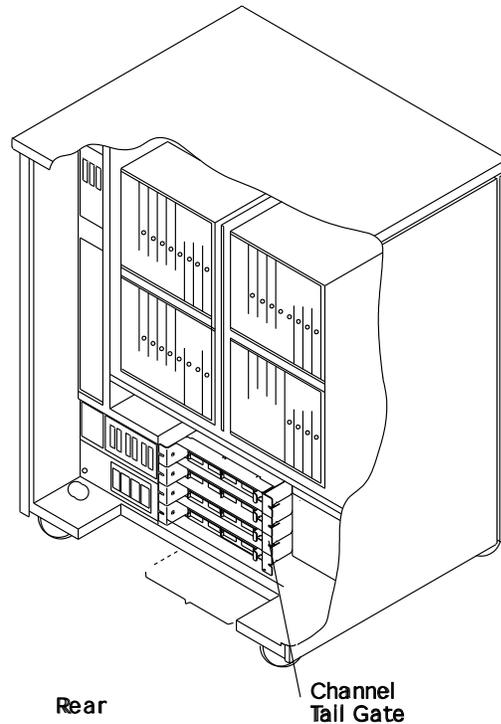
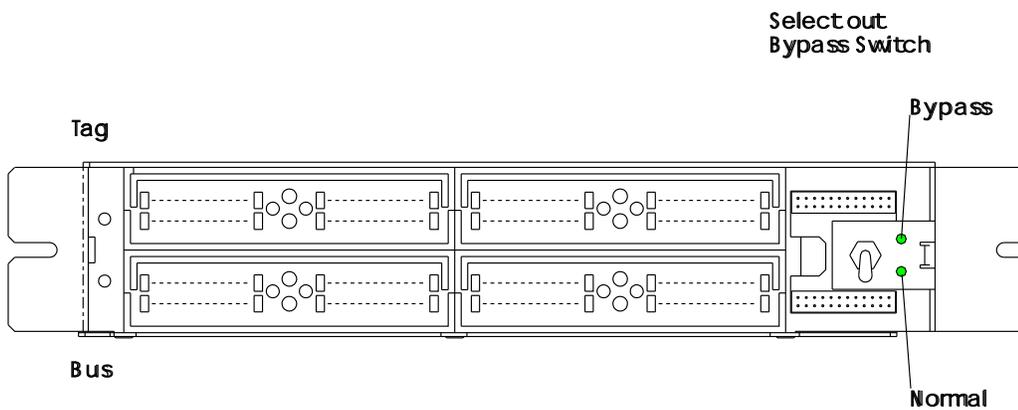

Figure 4-43. Channel Tailgate Location
Figure 4-44. Select Out Switch
24. From step 8 on page 4-34: At the Channel Tailgate set the Select Out Bypass switch to **bypass** (refer to Figure 4-27 on page 4-25, to Figure 4-43, and to Figure 4-44) according to the CADR to be replaced (refer to Table 4-10).
8. At the channel tailgate set all the Select Out Bypass switches to **bypass** (refer to Figure 4-43 and to Figure 4-44 on page 4-36).